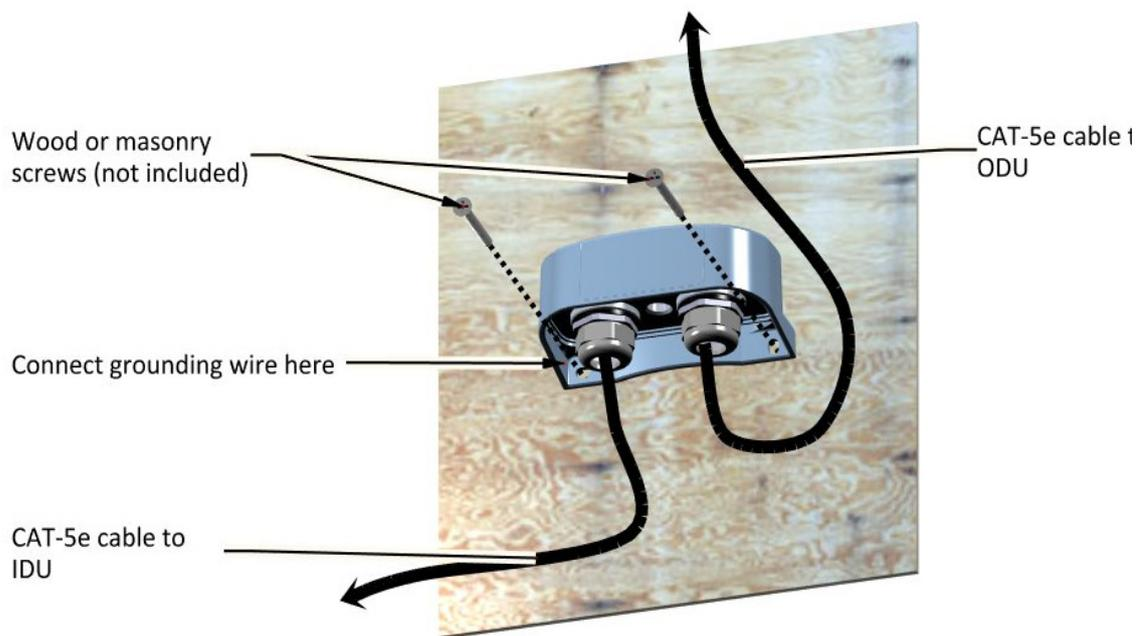

Figure 1-54: Installing an LPU on a wall
2. Attach the LPU to the wall using wood or masonry screws (not included), via the holes as shown in Figure 1-54.